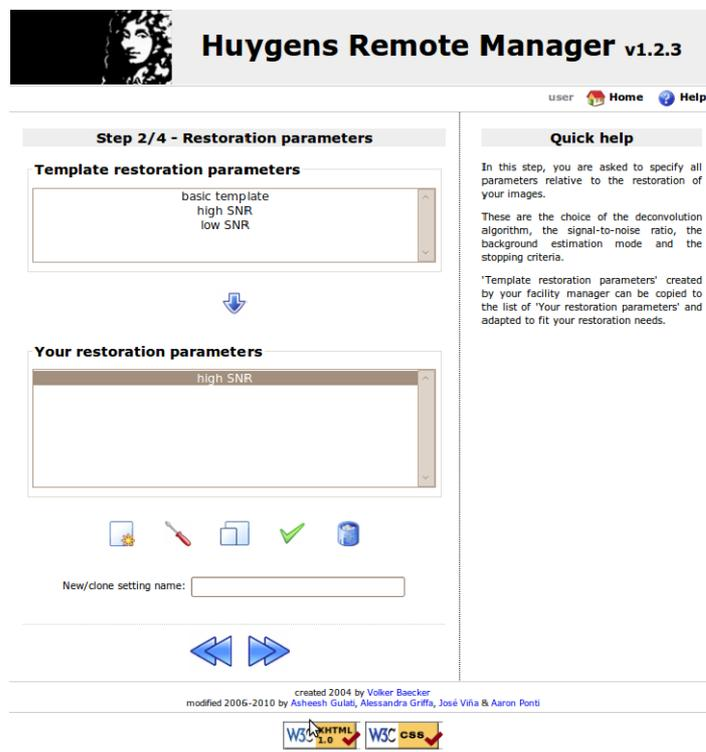

FIGURE 2.11. The Restoration Parameter Settings. At the end of this step a restoration template is selected.
The initial page of the Restoration Parameter Settings looks very much like the Image Parameter Settings page (See Figure 2.11). This means that one can select among existing templates made by the HRM administrator, copy them, edit them for customized settings, add new settings from scratch and so forth.
- *Deconvolution algorithm*: There are two deconvolution algorithms available to process the data. The Classic Maximum Likelihood Estimation (CMLE) algorithm and a quicker version of it (See Figure 2.11).